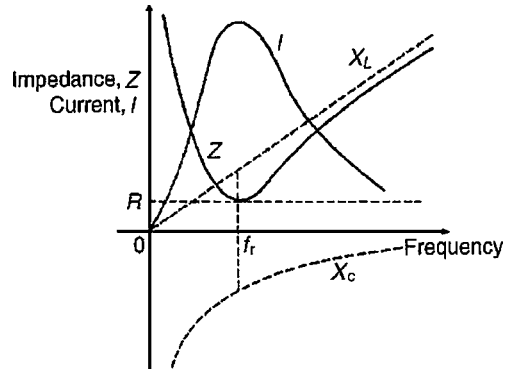

Figure 15.21
- (vi) Typical graphs of current I and impedance Z against frequency are shown in Fig. 15.21